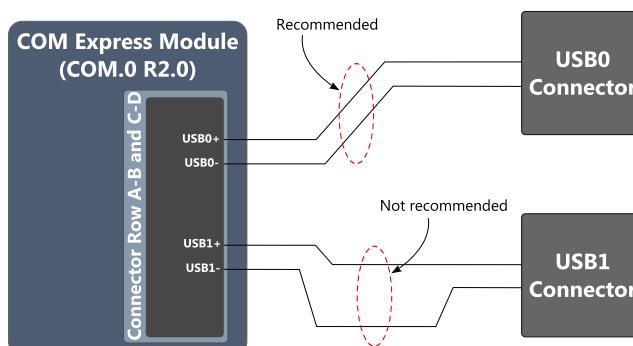

Figure 58: USB Differential Signal Routing Example
The layout guidelines for the USB data lines are listed below. And a routing example for two pairs of USB data buses is shown in Figure 58.
- Each pair of USB data lines is required to be parallel to each other with the same trace length (see Figure 58), and not parallel with other signals to minimize crosstalk.